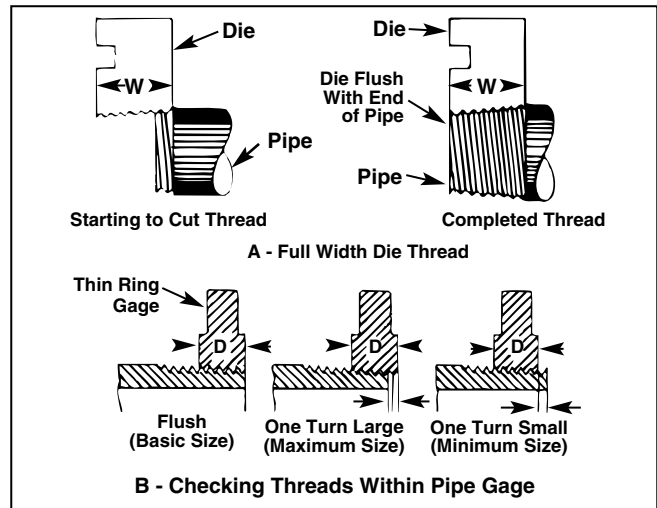

Figure 14 – Checking Thread Length
13. Check the thread for length and depth (Figure 14).